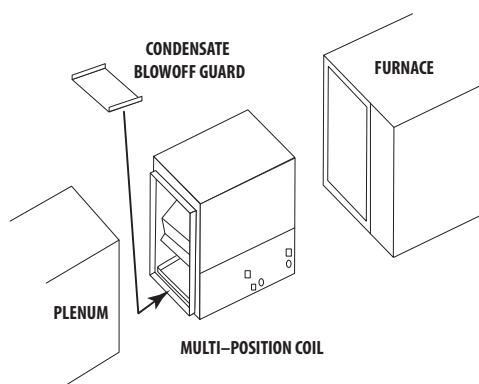
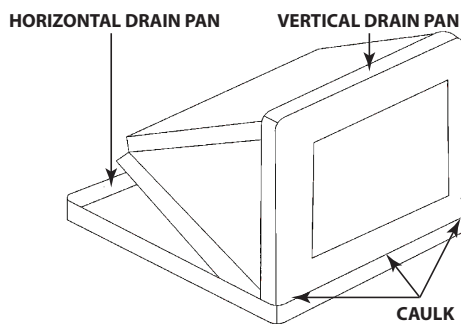

Figure 2. Condensate Blow-Off Guard
Figure 3. Required Drain Pan Caulking for Horizontal Reverse Air-Flow Applications
- On some multi-position coils where the air enters the open end of the “A” coil and the apex of the coil is downstream from the air inlet, a condensate blow-off guard is provided for horizontal applications and must be attached to the horizontal drain pan to catch any condensate blow off (See Figure 2).
- Multi-position coils are shipped for horizontal installations where the apex of the coil is pointing to the left when viewing the coil from the front. For horizontal installations requiring the apex of the coil to point to the right, the horizontal drain pan must be removed and installed on the opposite side of the coil and the coil top cap must be removed, repositioned, and re-caulked as shown in Figure 3.
All horizontal applications require baffles to be attached to the front and back of the coil apex as shown in Figure 4. These baffles are required for the refrigerant leak detection system to function properly should a refrigerant leak develop when the coil is operating in the horizontal orientation. For cased coils, the coil must be removed from the case before installing the baffles. For horizontal right discharge applications, reposition and caulk the top cap (See Figure 3) and horizontal drain pan (See Figure 2) before installing the baffles. Remove the baffles from the parts bag provided with the coil. The narrower baffle is to be installed at the back of the coil and the wider baffle is to be installed at the front of the coil where the header and TXV are located. Place the baffles on top of the coil apex as shown in Figure 4 and use the 2 screws provided in the parts bag to attach each baffle tab to the top of the coil delta plates as shown in Figure 4. Slide the coil into the coil case and continue with the coil installation process.